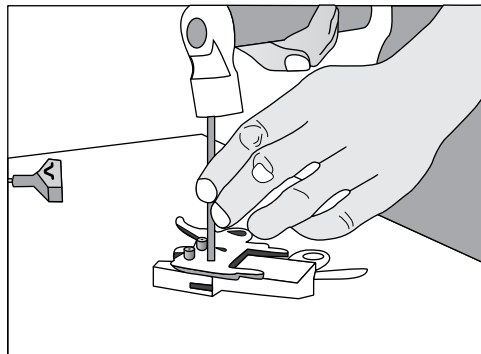

Figure 16
7. Loosen screws with a 3 mm Allen wrench. Take off the spring pin with a hammer and 6 mm straight rod. (See Figure 16)